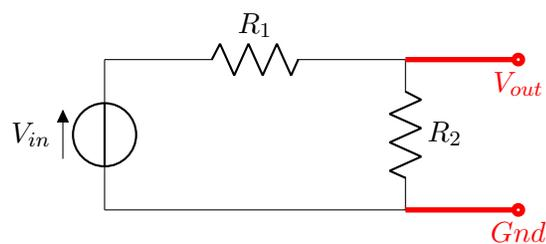

Figure 1.22: Voltage Divider.
- **Microcontroller** However, a microcontroller does not have a built-in provision / facility of an *ohmmeter*. It can only read in an *Analog voltage* due to the inbuilt Analog-Digital-Converter. Hence, we need to employ a circuit wherein the **measured voltage** is related to the **resistance**. This is achieved using the familiar **voltage divider** circuit, presented in Fig.1.22.